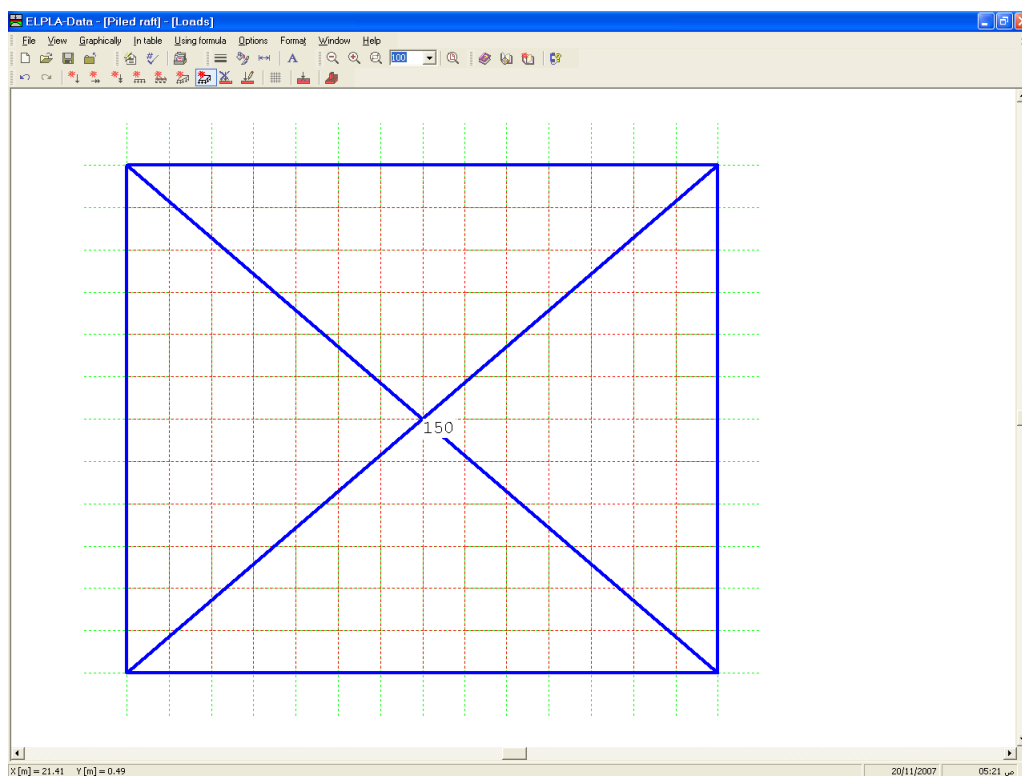

Figure 12-30 Loads on the screen
After you have completed the definition of all load data, the screen should look like the following Figure 12-30.
- Choose "Save loads" command from "File" menu in Figure 12-30 to save the load data
- Choose "Close loads" command from "File" menu in Figure 12-30 to close the "Loads" embedded program and return to the main window of *ELPLA-Data*.